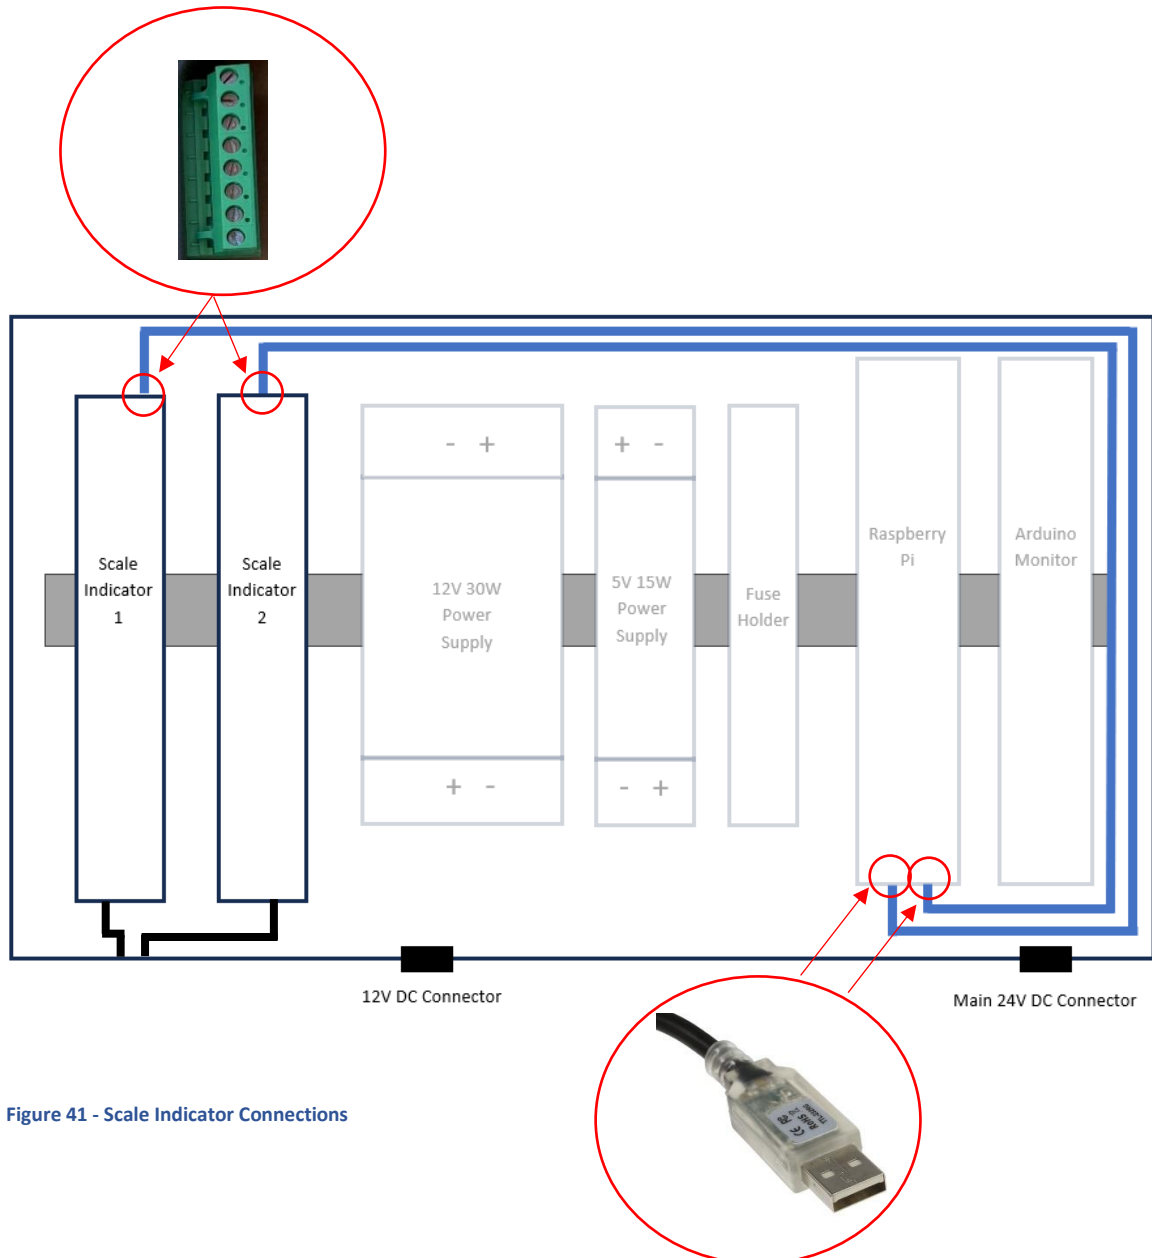

Figure 41 - Scale Indicator Connections
- The Scale Indicator uses an 8-pin screw connector for power and serial communication. The connector, as well as the layout of the two RS485 Serial Converters can be seen in FIGURE 41 - SCALE INDICATOR CONNECTIONS